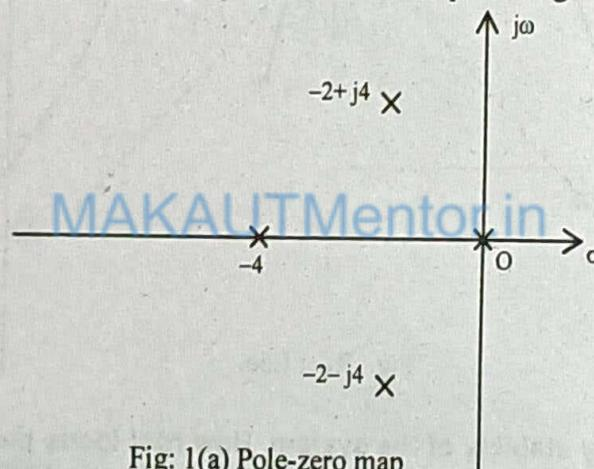

Fig: 1(a) Pole-zero map
**Step 2:** Plot the open loop poles and zeros on s-plane Fig. 1(a)